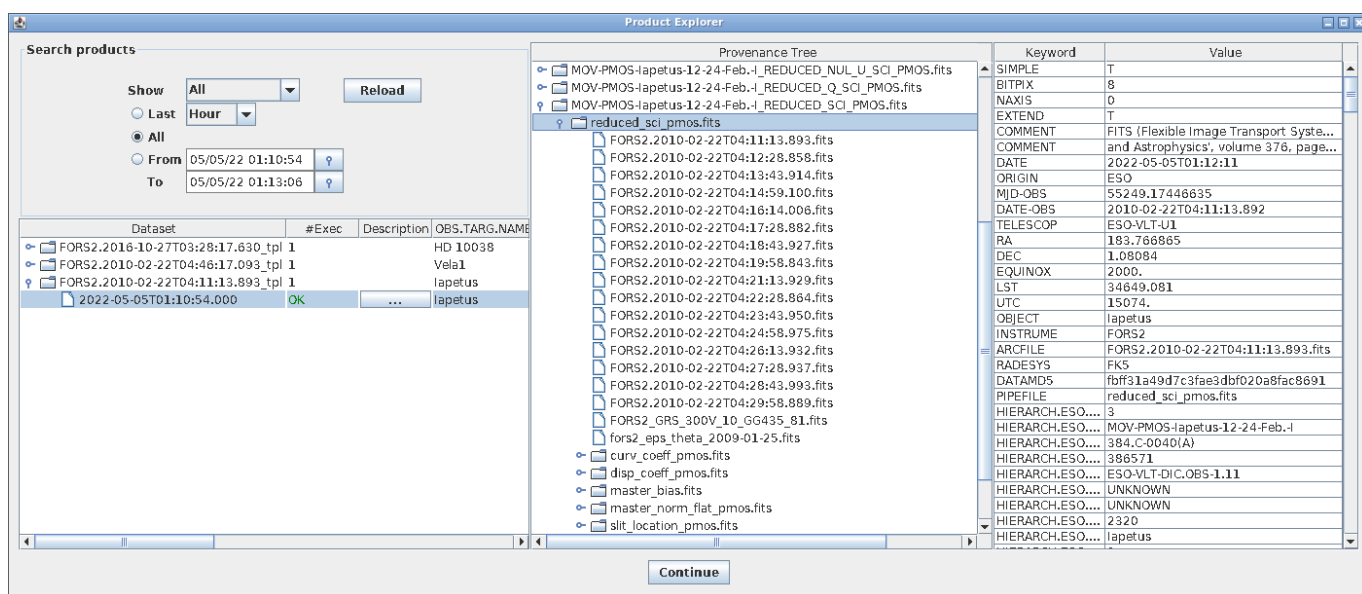

Figure 6.4: The Product Explorer shows all datasets reduced in previous executions together with the full reduction chain for all the pipeline products.
9. Once the reduction of all datasets has finished, a pop-up window called *Product Explorer* will appear, showing the datasets which have been reduced together with the list of final products. This actor allows the user to inspect the final data products, as well as to search and inspect the input data used to create any of the products of the workflow. Figure 6.4 shows the *Product Explorer* window. A full description of the *Product Explorer* will be presented in Section 9.3.3.